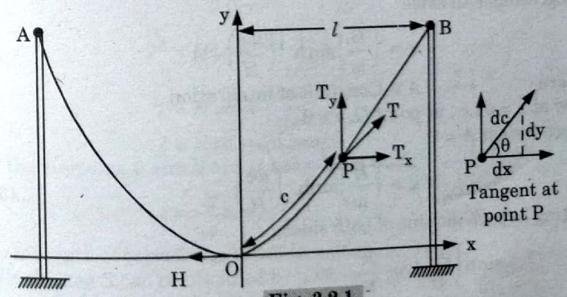

Fig. 3.2.1.
- Consider a conductor, supported at the points  $A$  and  $B$  with  $O$  as the lowest point on the conductor, as shown in the Fig. 3.2.1.